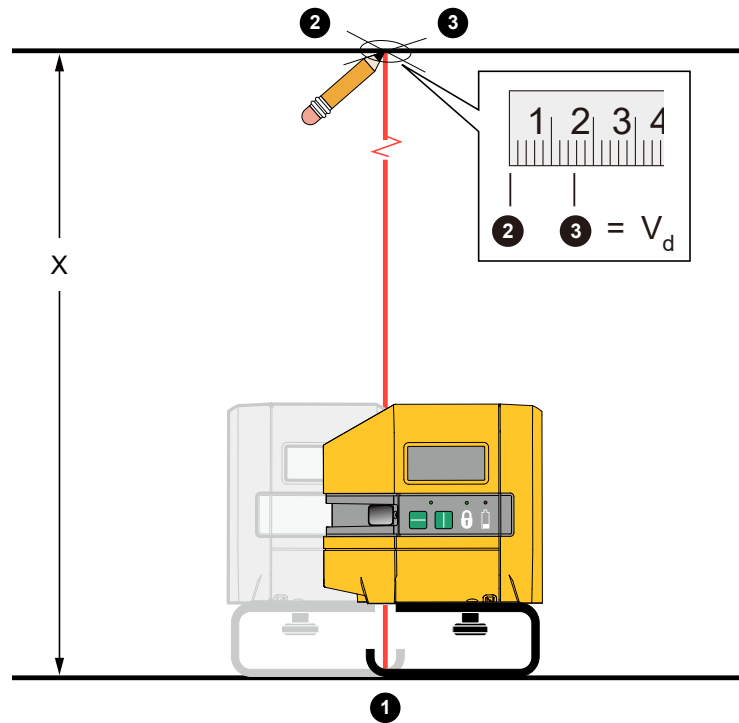

Figure 9. Plumb Accuracy
3. Center the down point laser on both axes of the cross mark. See Figure 9.